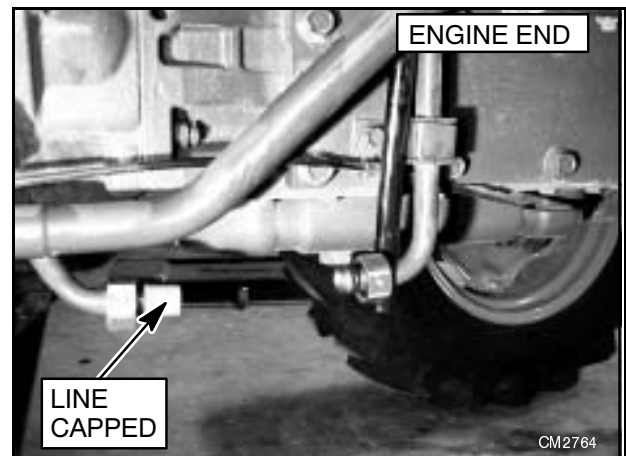

Figure 2 Hydraulic connector Tube Removed (Rear line capped with 3/4" plastic cap)
1. Remove tractor hydraulic line connector tube or adapter block (if equipped) as shown in Figure 2.